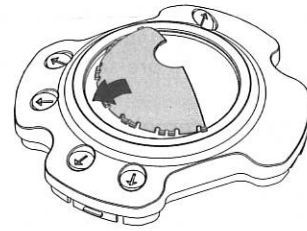

FIG.17
- 4.3.3 Fixing lens shield: There is circular hook on the back of the decorative frame and the lens shield is designed with a circular groove. The lens shield can be fitted by joining the groove of lens shield with its corresponding hook on the decorative frame (See FIG.17).